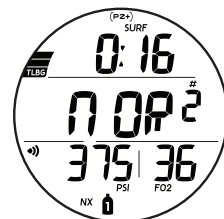

Fig. 33 - NORM SURF MAIN
Upon surfacing during dives, the Dive Main will remain on display for the first 10 minutes, with Surface Interval time (SI) in place of Depth, after which the post dive Surface Main will be displayed (Fig. 33).